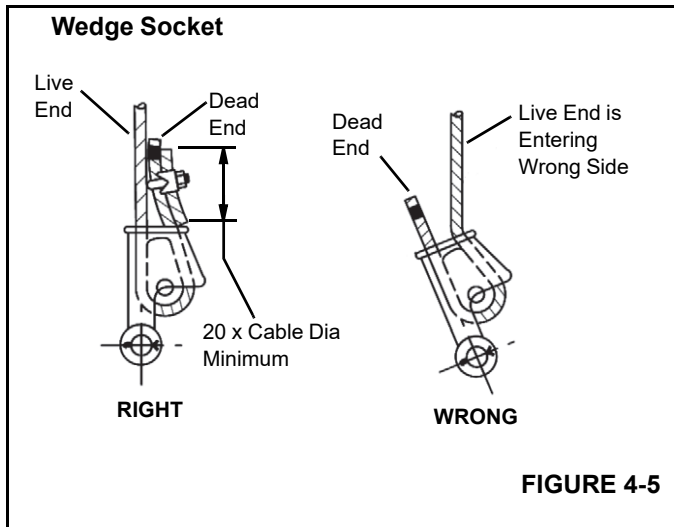

FIGURE 4-5
3. Make sure the live-end (Figure 4-5) of the rope is directly in line with the ears of the socket and the direction of pull to which the rope will be subjected. If the rope is loaded into the socket incorrectly, under a load the rope will bend as it leaves the socket, and the edge of the socket will wear into the rope causing damage to the rope and eventual failure.
4. Insert the end of the wire rope into the socket, form a loop in the rope, and route the rope back through the socket allowing the dead-end (Figure 4-5) to protrude from the socket. Ensure the dead-end of the rope is of sufficient length to apply end treatment to the dead-end after the wedge has been seated.